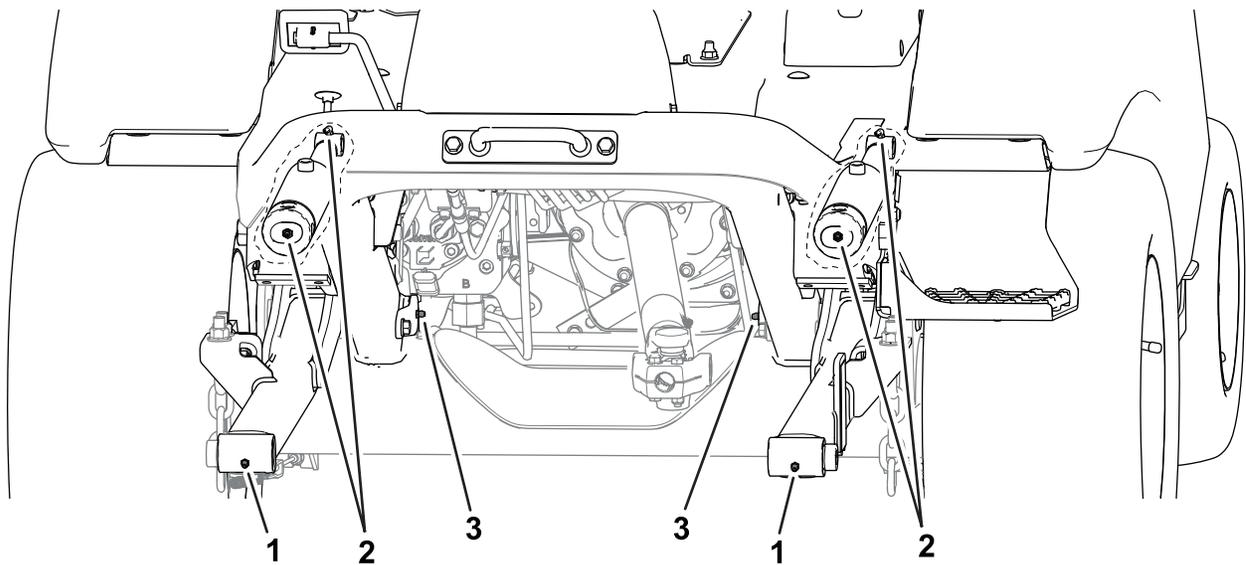

Figure 47
- **Front of the machine (Figure 47):**
- Attachment pivot hubs (2)
- Lift-cylinder bushings (2)
- Lift-arm pivot pins (2)